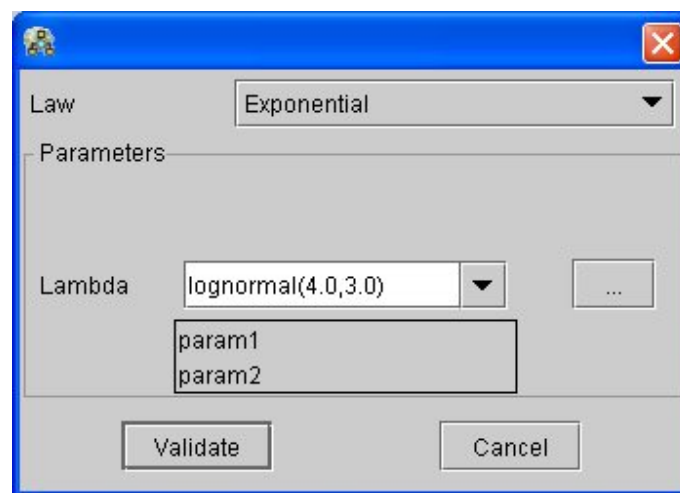

Figure 56 : Law editor assistant window
1. Select the Law radio button and fill the field in or alternatively, click on the right button to access to the law editor assistant window (See Figure 56). The law entered in the field must be In AltaRica format (cf. Annexe 2). The associated syntax is the following: